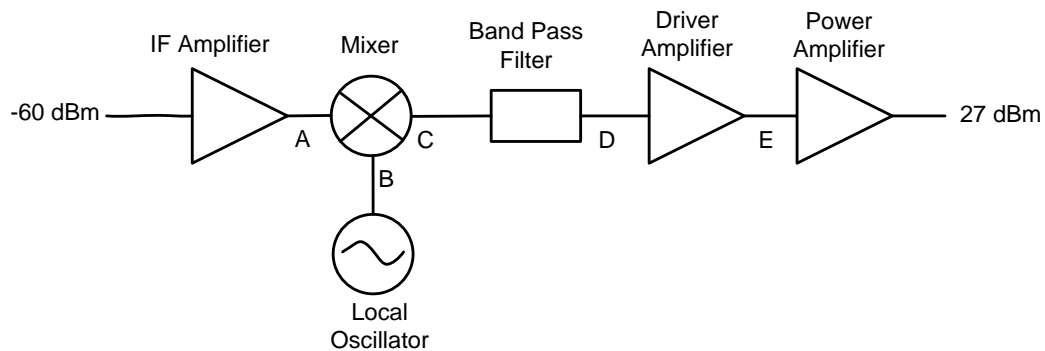

Figure 2
3. (a) Referring to a block diagram in Figure 2, design a 2.49 GHz wireless transmitter having the specifications as in Table 1. The information for the components that is required for the design is attached in the Appendix B to I.